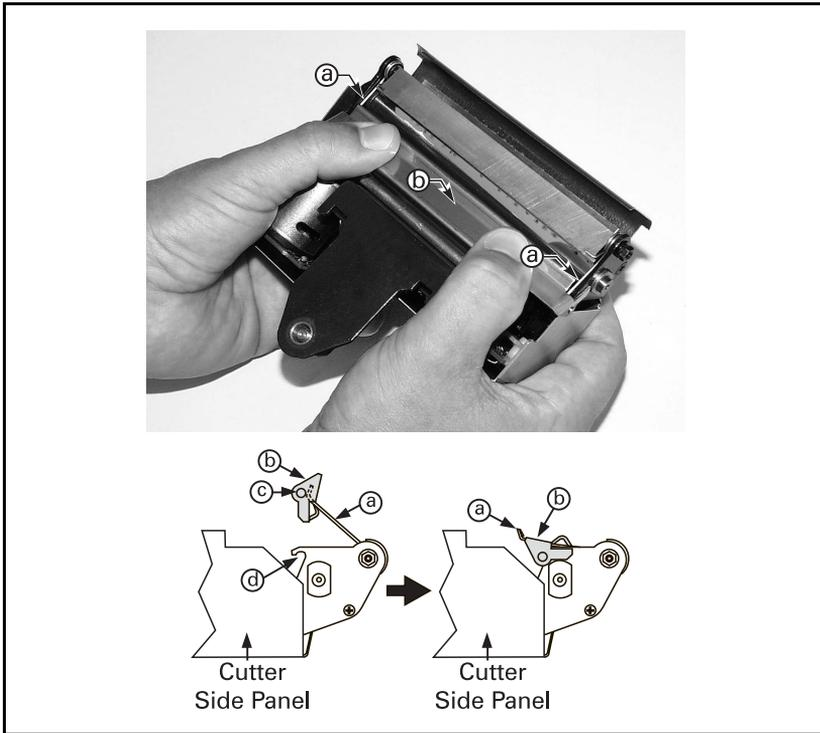

Figure 21. Cutter Module Reassembly
1. See Figure 21. Position the two wire springs (a) down against the lower cutter blade.